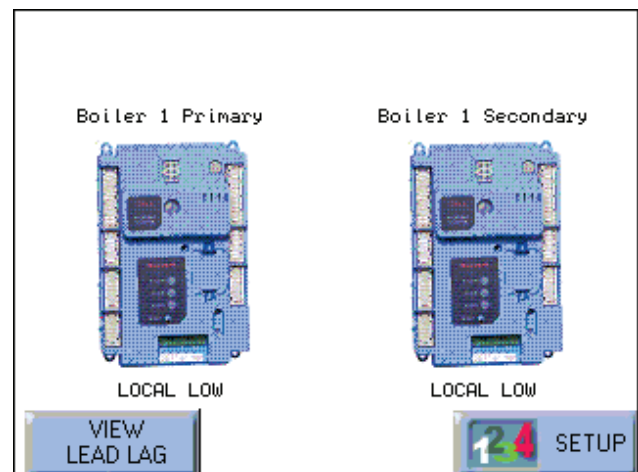

Fig. 36 - Home Page Screen
1. From the Home Page screen (Fig. 36), press the icon for the controller you want to configure. In this example, we will change some settings for the Primary controller, so we will press the icon on the left.